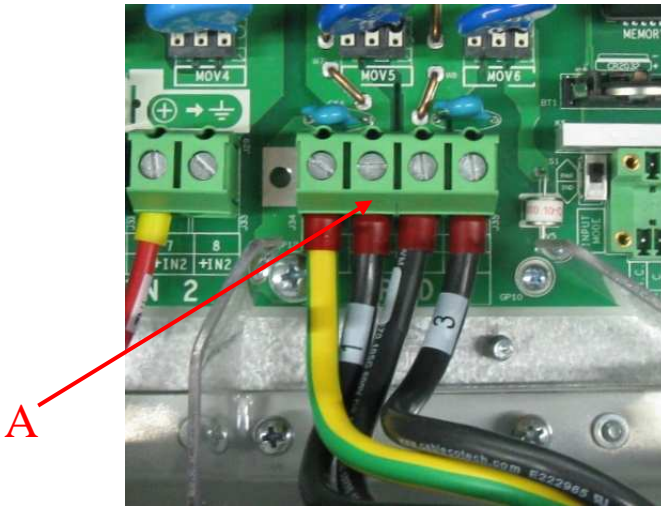

Fig. 18 - Terminal Block for AC connection (-US models)
Step 4: Connect the 3 AC wires to the relative terminal block present inside the Inverter (Fig. 18). The AC wire connections should be done based on the type of AC Grid by following Table CN-01 –"AC Grid Connection ". The ground cable shall be connected to the terminal block indicated by the pointer of pos. "A" of Fig. 18.
Disconnect the 3 AC cables ("1", "2" and "3") from the inverter pos "A", "B" and C in Fig. 18.